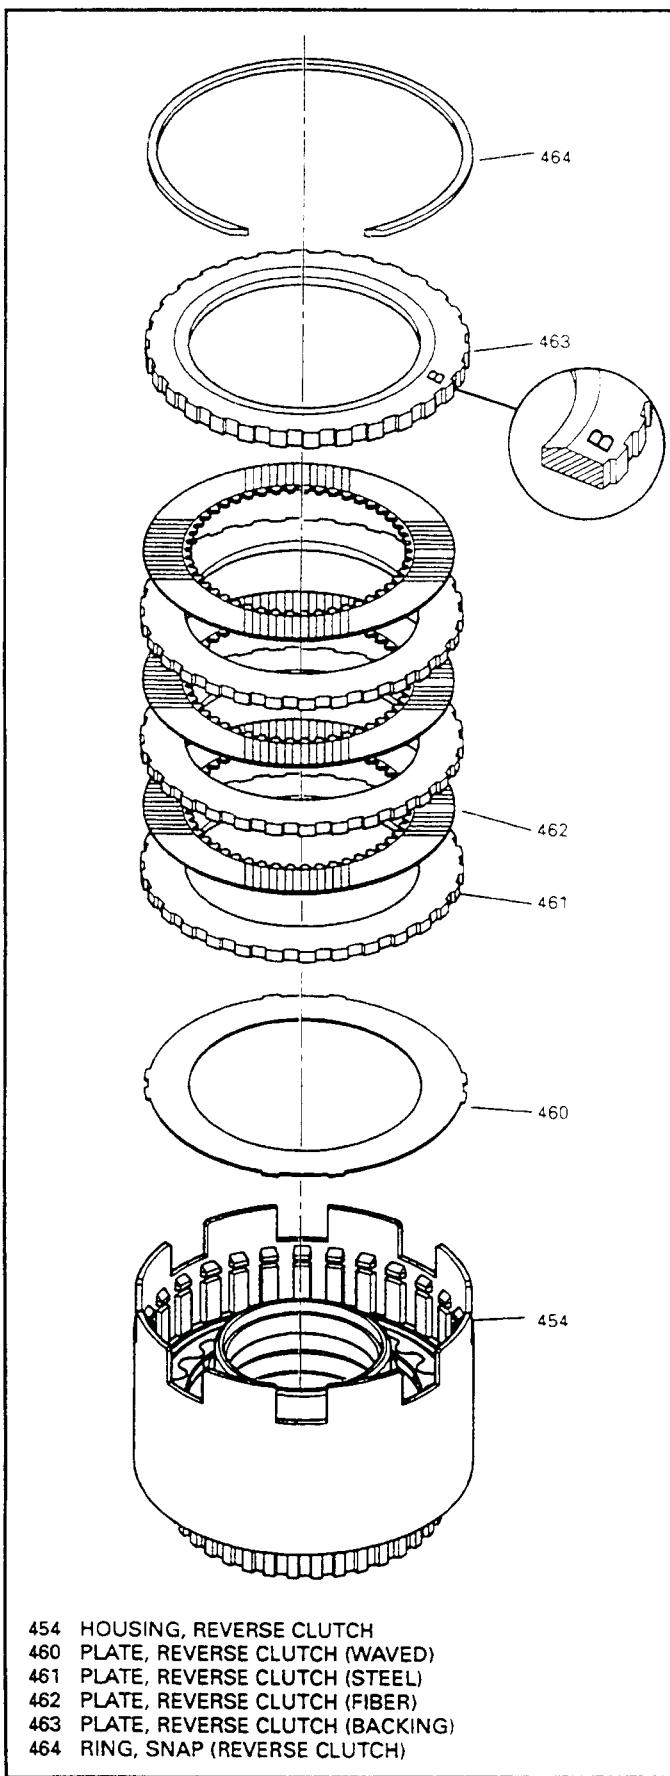

Figure 151
18. Install the reverse input clutch wave plate into the housing as shown in Figure 151.
19. Install the reverse input clutch plates beginning with a steel plate on top of the wave plate, and alternating with lined plates, until you have installed 3 steel plates and 3 lined plates, as shown in Figure 151.
21. The backing plate identification is stamped into the beveled side of the backing plate as shown in Figure 151.
22. Install the proper reverse input backing plate, with the beveled side facing up, as shown in Figure 151.
23. Install the snap ring (464) in the reverse input housing to retain the clutch plates as shown in Figure 151.